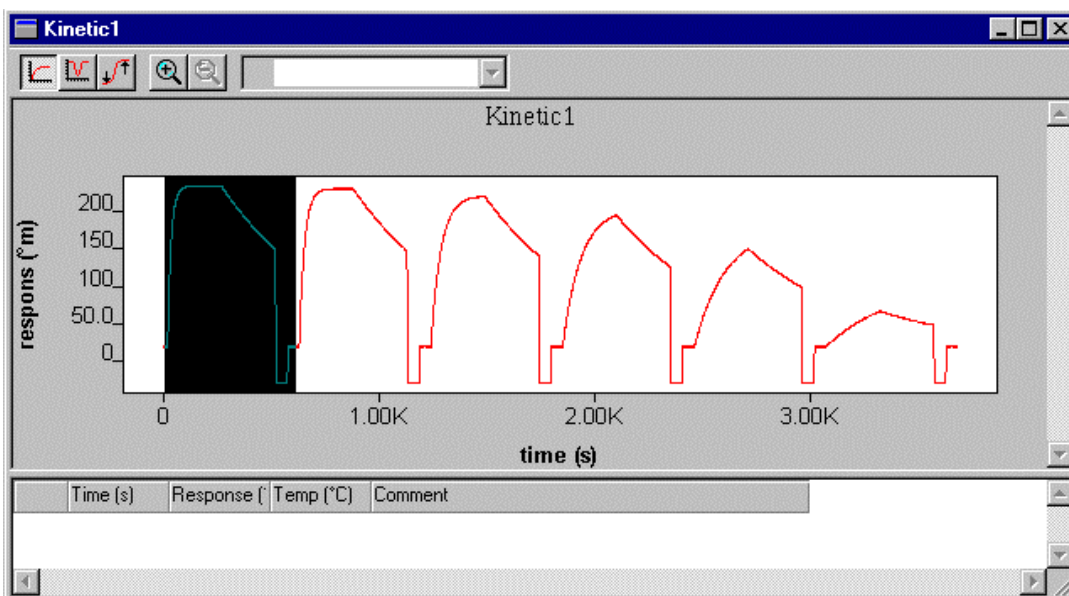

Figure 2.5: Selection of the first interaction plot
- Select the entire first curve with the left mouse button. The selected region will be shown in black (figure 2.5).